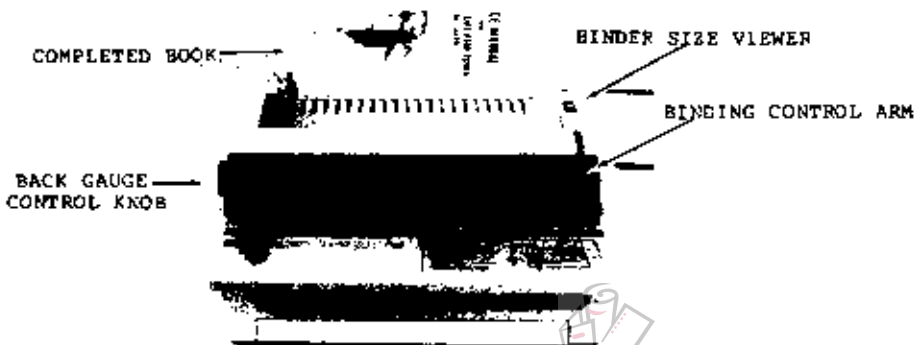

Figure 4.3
9. To determine the correct back guide setting and proper GBC binding to use, a binder size viewer (See Figure 4.3) has been provided on the top cover right hand side. The viewer is color coded to correspond with the back gauge control knob. It also has a binding size chart to assist you in selecting the proper GBC binding to use.
- Move the binding control arm (See Figure 4.3) upward, this will open the spreading hooks.